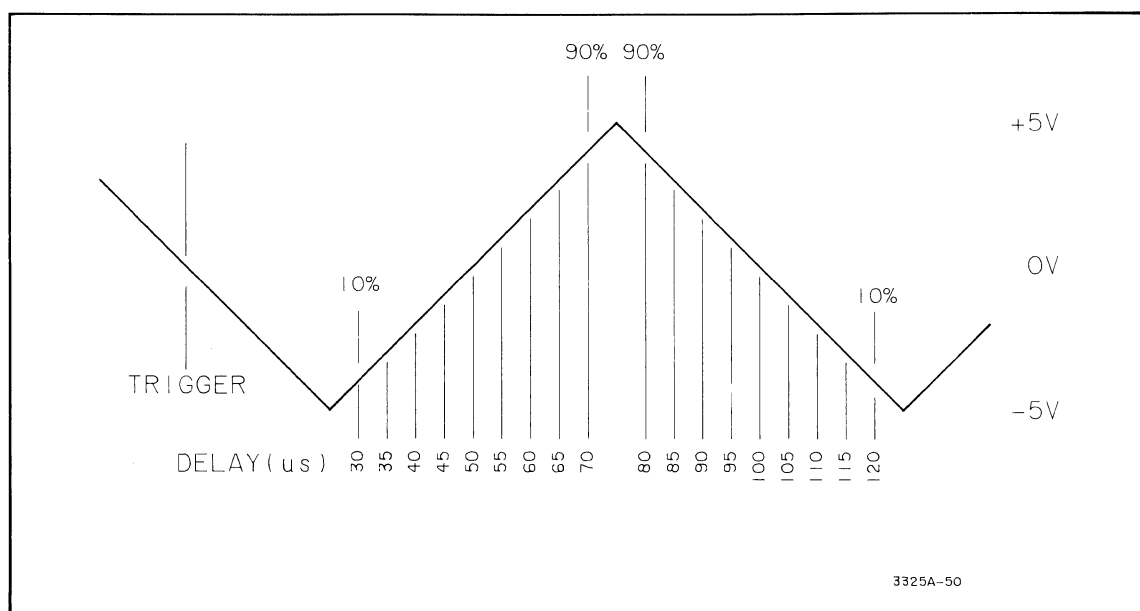

Figure 4-12. Triangle Linearity Test.
d. Set the digital voltmeter delay to .00003 (seconds). Record the digital voltmeter reading on the Performance Test Record under "Positive Slope Measurement, (10%) y_1 ". This is the 10% point on the positive slope of the triangle. See Figure 4-12.